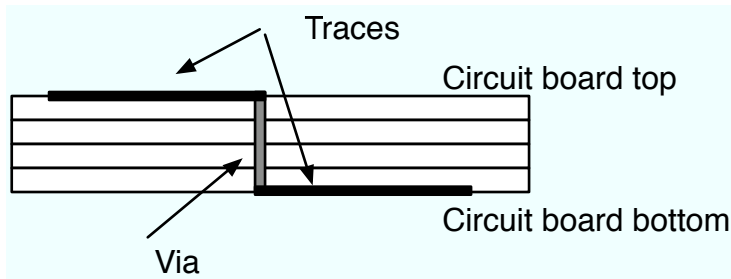

Figure 9.2: A PCB side view showing traces connection with a via
- Vias - One problem with traces on a printed circuit board is that they are purely two dimensional. There is no way to jump a trace over another one. This presents a problem when there get to be a large number of traces—how do you connect up components where the traces need to jump over each other? The answer is with *vias*. Vias are small holes that have been drilled in the board. A small copper ring lines the hole, and runs through the board all the way to the other side. Vias allow traces to become three dimensional. A side view of a PCB showing traces and a via is shown in Figure 9.2.